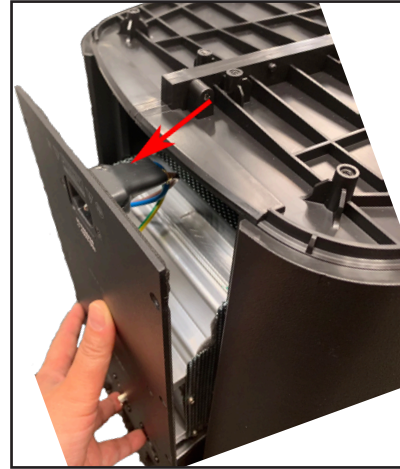

Figure 12. Incline the Power Stand
3.2 Incline the Power stand to let the I/O panel assy go downwards as indicated in Figure 12.